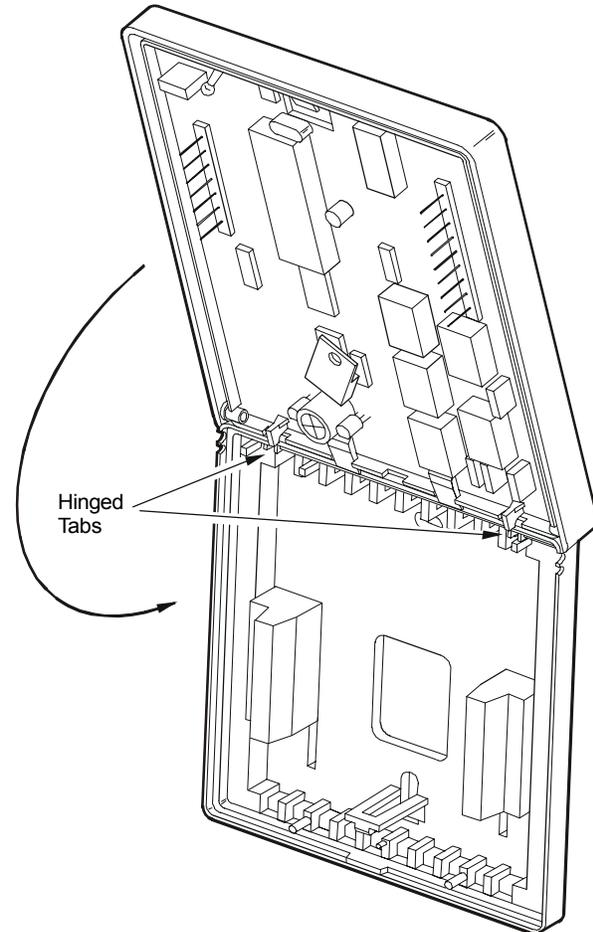

Figure 6: Installing the T500 Thermostat
2. Swing the thermostat and cover down, and press on the bottom center edge until they snap in place. (See Figure 6.)